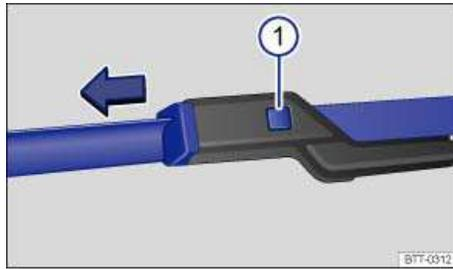

Fig. 172 Changing the windshield wiper blades.
- Press and hold the release button ⇒ fig. 172 \(1\).